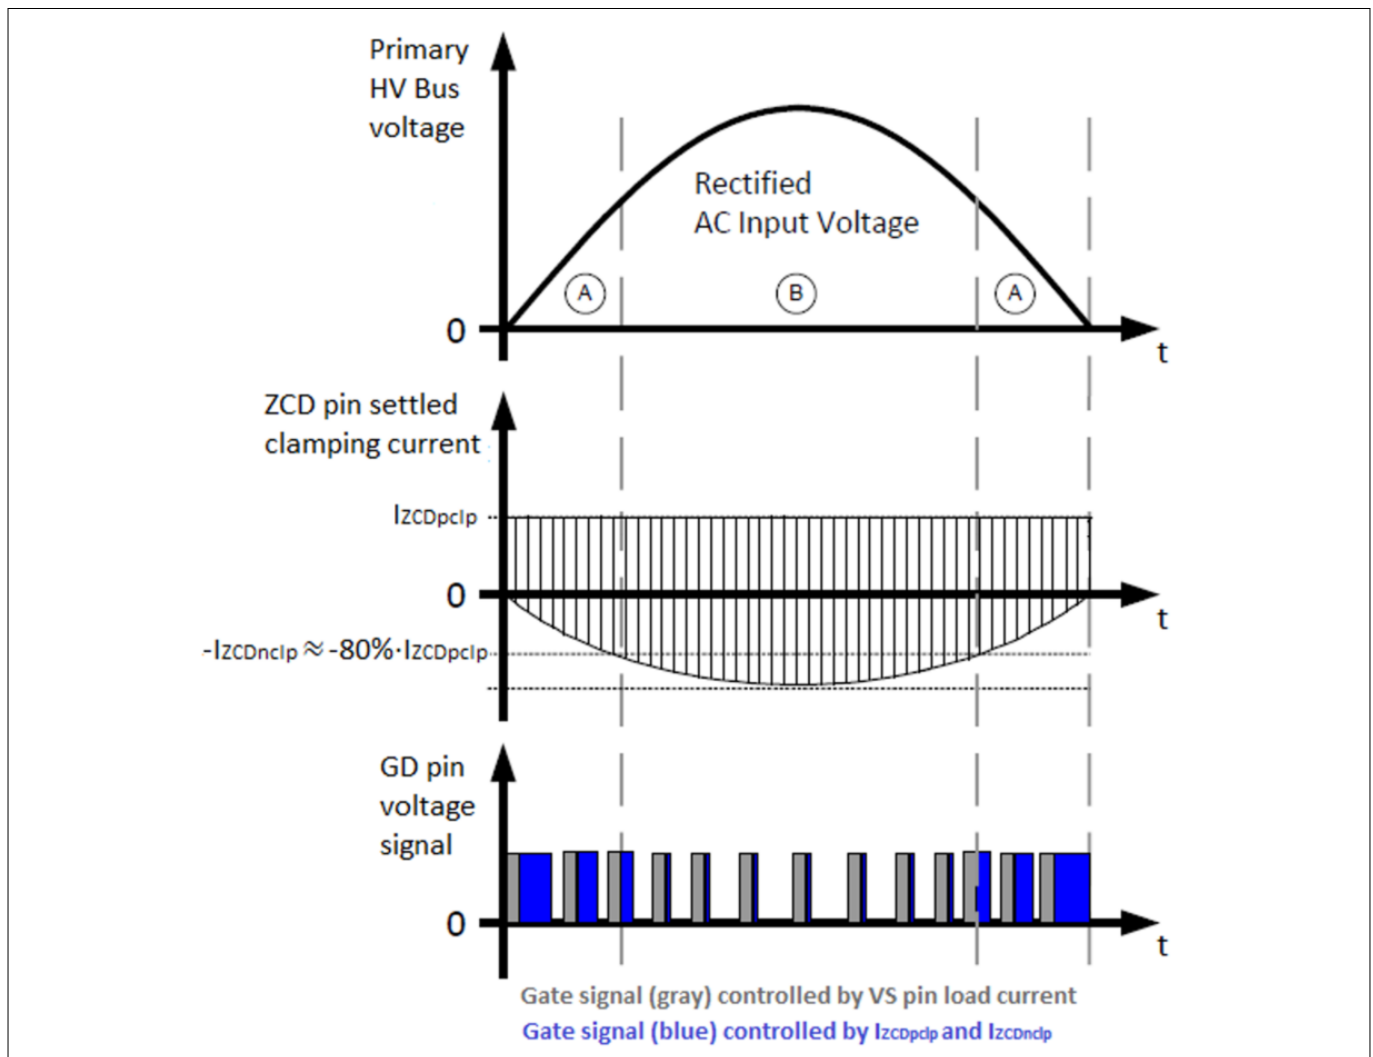

Figure 8 ICL8820S THD correction with on-time extension near AC input voltage zero crossing
As shown in Figure 8 area A, ICL8820S increases the on-time extension near AC input voltage zero crossing, where $I_{ZCDnclp}$ is less than 80% of $I_{ZCDpclp}$.
- the on-time extension effect for THD correction (see Figure 8)